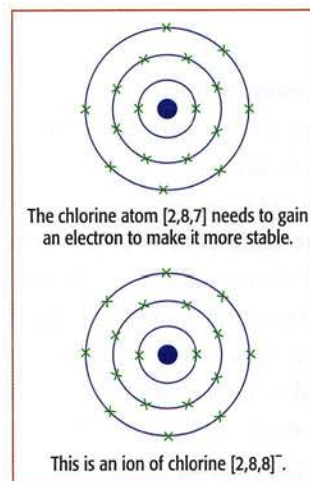

Figure 3.25 A chlorine atom gains an electron to become a chloride ion.
The chlorine atoms, electron arrangement 2,8,7, each gain an electron released from the sodium atoms and they become chloride ions (Cl^-) (Figure 3.25). The chloride ion (electron arrangement 2,8,8) has the electron arrangement of an argon atom. The chloride ion has a negative charge because it has one more electron (18) than there are protons in the nucleus.